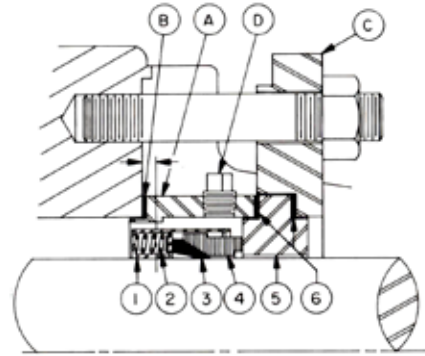

FIGURE 18
Three components are furnished in the mechanical seal assembly: Refer to Figure 18, item numbers 1 thru 6.
Three pump parts necessary for mounting PTFE mechanical seal are illustrated in Figure 18, item letters A, B, C and D.
5. Loosen the set screws in the mechanical seal retainer cartridge and remove from the rotor shaft. Refer to Figure 18.
3. Place the tapered installation sleeve (if on hand) and install the seal on the shaft over the tapered sleeve. Position the seal on the shaft inside the rotor bearing sleeve bore with end of seal located .19 inch inside the machined face of the rotor bearing sleeve. Refer to Figure 18.
7. Place the seat gasket over the shoulder of the stationary seal seat and insert seat into the seal plate. Place the remaining seat gasket over shoulder of polished surface of stationary seat. Refer to Figure 18.